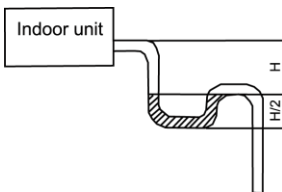

Fig. 4.21
- (4). When the drain hose cannot keep a sufficient gradient, it is necessary to fit a riser pipe (field supplied) to it.
- (5). If the air flow of indoor unit is high, this might cause negative pressure and result in return suction of outdoor air. Therefore, U-type water trap shall be designed on the drainage side of each indoor unit (Fig. 4.21).
- (6). Install one water trap for each unit.
- (7). Installation of water trap shall consider easy cleaning in the future.